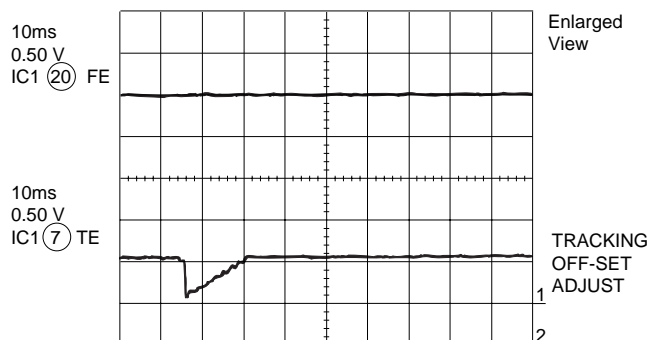

Figure 18-2
2. Tracking Offset (Fig. 18-2)